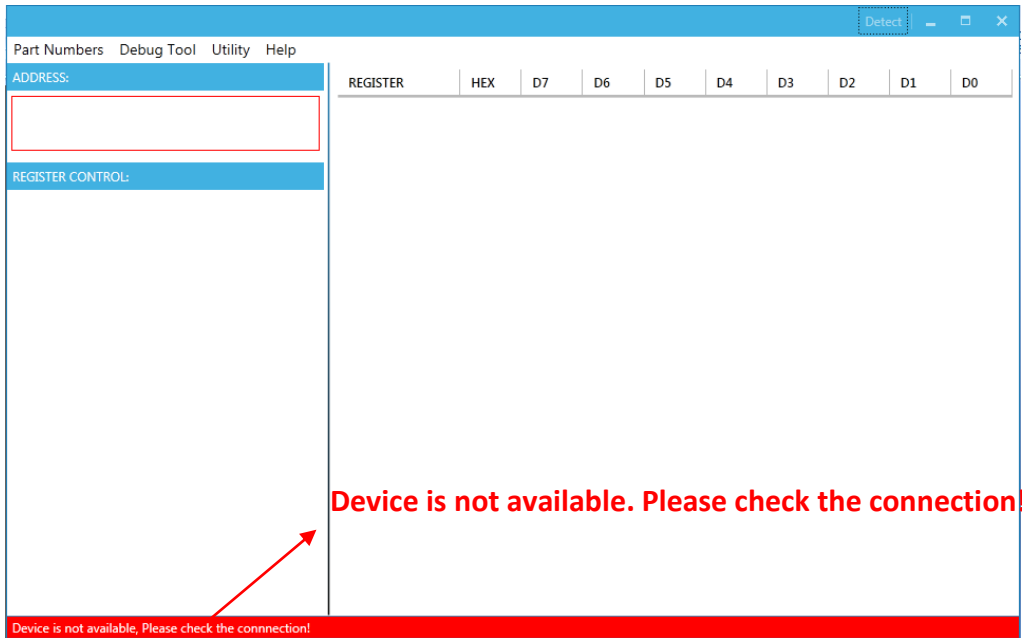

Figure 9: Warning Indicates Unsuccessful Connection – USB/I2C Communication Interface Devices not Connected
- 2) “Device is not available. Please check the Connection!” This means that the USB I2C communication interface device is not connected (see Figure 9).
The screenshot shows the same software window as Figure 9, but now it displays a table of I2C register values. The title bar reads 'MP5470-12V POWER MANAGEMENT IC WITH I2C'. The 'ADDRESS:' field contains '68'. The 'REGISTER CONTROL:' section has three expandable menus: 'MTP CONFIGURE', 'BUCKCTRL', and 'SYSCTRL'. The table on the right lists registers and their bit values.